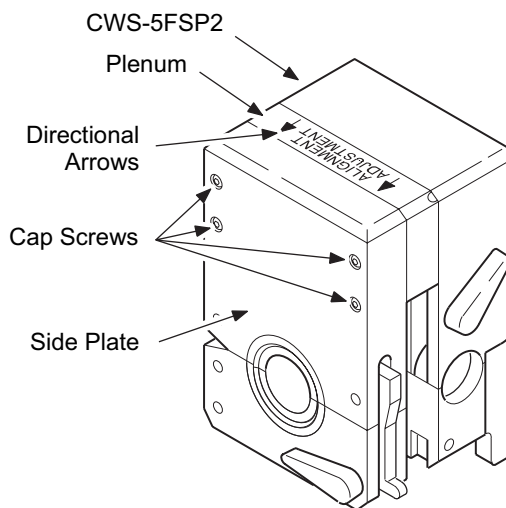

Figure 18 Loosening the Side Plate
1. Turn the fixture block over and locate the directional arrows on the plenum. The arrows point to the appropriate side plate. See Figure 18.
2. Using the provided 3/32 in. hex wrench, unscrew the four cap screws in the appropriate side plate just enough to loosen it from the plenum. See Figure 18 to locate the appropriate side plate.